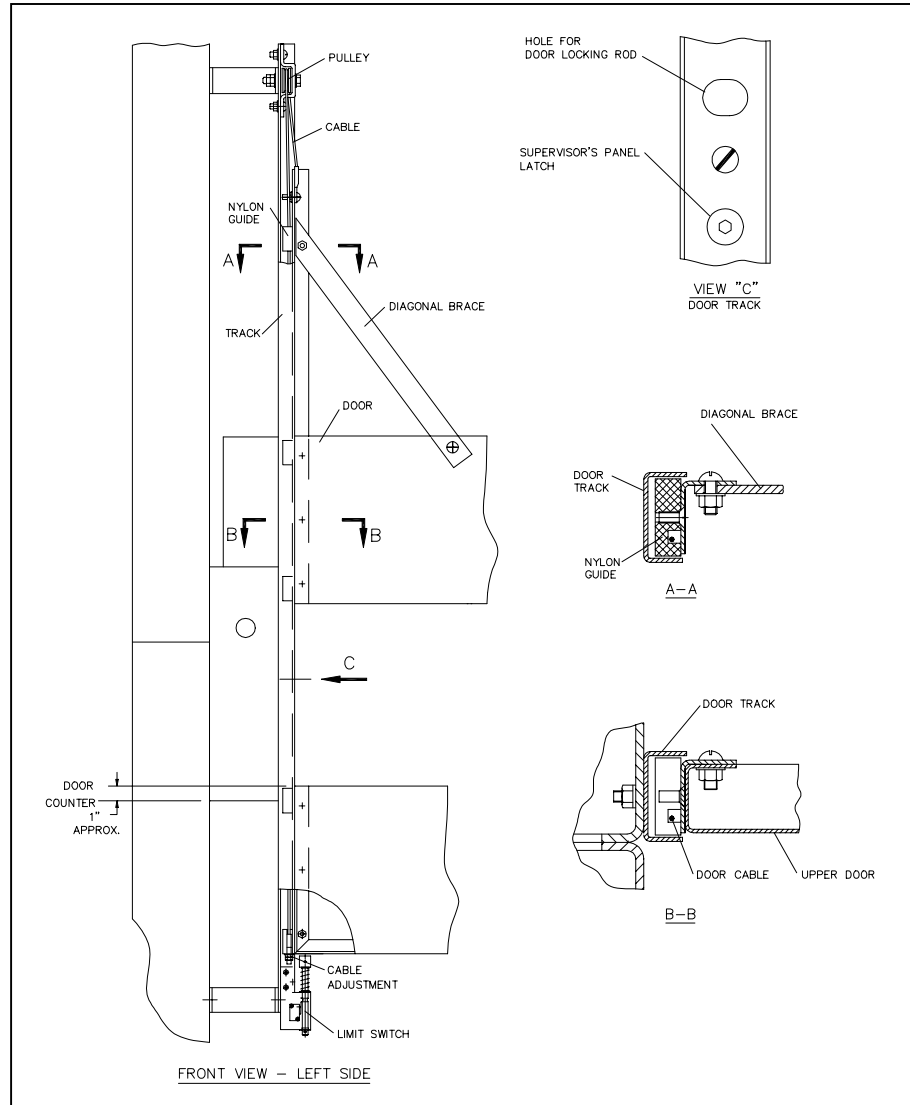

Figure 27. DOOR INSTALLATION
2. Check that the upper door angles are seated in the track channels and that the cables are running in the pulley grooves (see Figure 27).